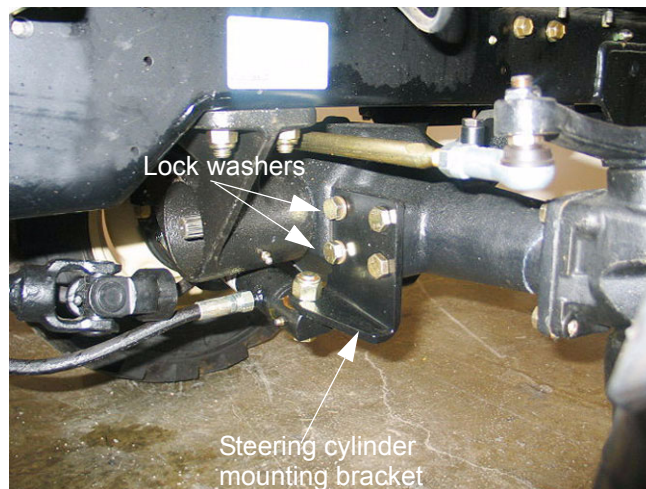

Figure 3.5
- 3.5. Remove the four bolts holding the steering cylinder bracket to the MFD housing using a 19 mm wrench. See Figure 3.5.